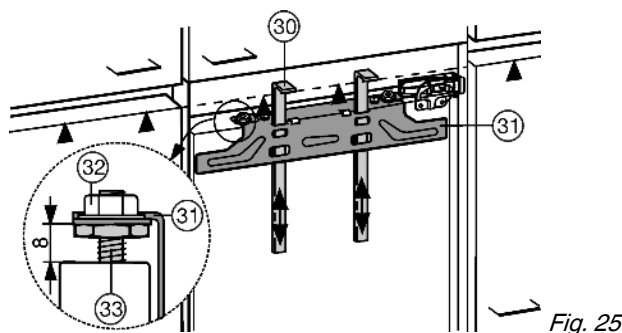
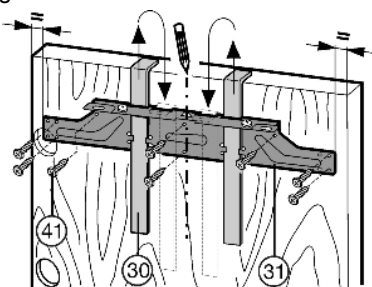

Fig. 25
Fig. 26
The fitting aids Fig. 25 (30) are required for both doors. Therefore fit the doors of the units one after the other.
- ▶ Raise fitting aids Fig. 25 (30) to unit door height. Lower edge ▲ of fitting aid = upper edge of unit door to be fitted.
- ▶ Unscrew crosspiece Fig. 26 (31) by undoing the locknuts Fig. 25 (32).
- ▶ Attach the crosspiece Fig. 26 (31) to the inside of the unit door using the fitting aids Fig. 26 (30).
- ▶ Centre the crosspiece Fig. 26 (31): mark a short centre line on the unit door and put the tip of the arrow on the crosspiece above it.
- ▶ fix the crosspiece Fig. 26 (31) with at least 6 screws Fig. 26 (41).
- ▶ fix the crosspiece Fig. 26 (31) with 4 screws Fig. 26 (41) at the edge.
- ▶ Lift out the fitting aids Fig. 26 (30), turn round and insert into the adjacent openings.